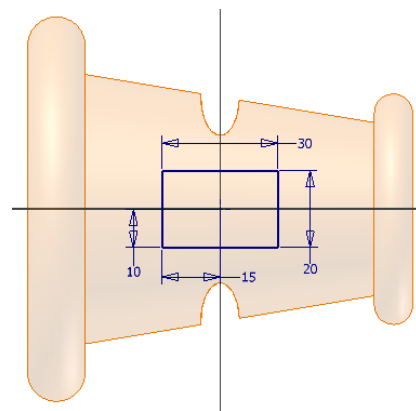

Figure 18-60 *Sketch drawn on the offset plane*
- f. Define a new work plane at an offset distance of 45 mm and then create the sketch shown in Figure 18-60.
2. Select this plane as the sketching plane and draw the sketch, as shown in Figure 18-60.
10. Turn on the visibility of the sketch that was used to split the base surface, refer to Figure 18-60.